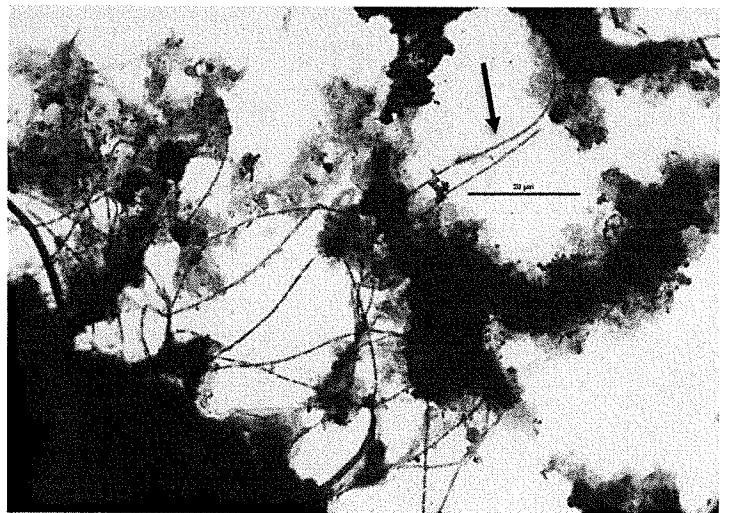

Figure 6, 1000x (m), Gram stain: Low to moderate levels of Type 1851 (arrow) was observed in the AT2-2 sample.
**Figure 6-1000x (m) Neisser Stain:** Low to moderate amounts of tetrads (red arrow) were observed. Tetrads are a cluster of four cells that are caused by an abundance of soluble carbon. It is common to see low levels of tetrads within a plant. Tetrads can be indications of nitrogen-deficient conditions.